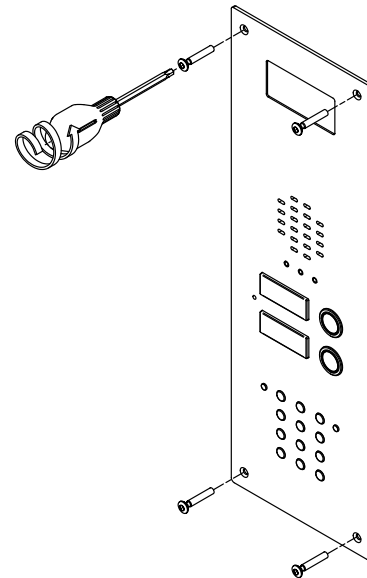

Fig. 4 -
3. Fix the plate to the flush mounting box using the screwdriver provided (torx end) and the pin machine torx screws (**Fig. 4**).